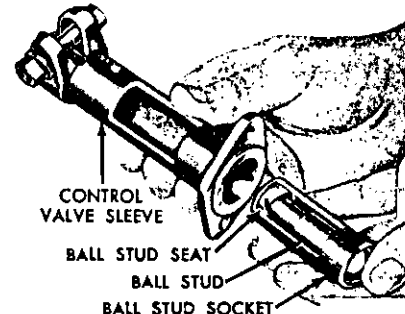

FIG. 41—Installing Ball Socket, Seal and Bracket
4. Place the socket in the control valve sleeve so that the threaded end of the ball stud can be pulled out through the slot in the sleeve (Fig. 41).